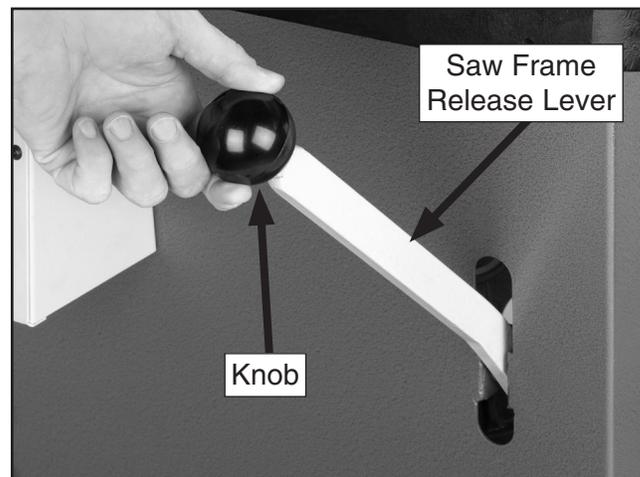

Figure 12. Saw frame release lever knob.
4. Twist the knob onto the saw frame release lever until it is snug (**Figure 12**).